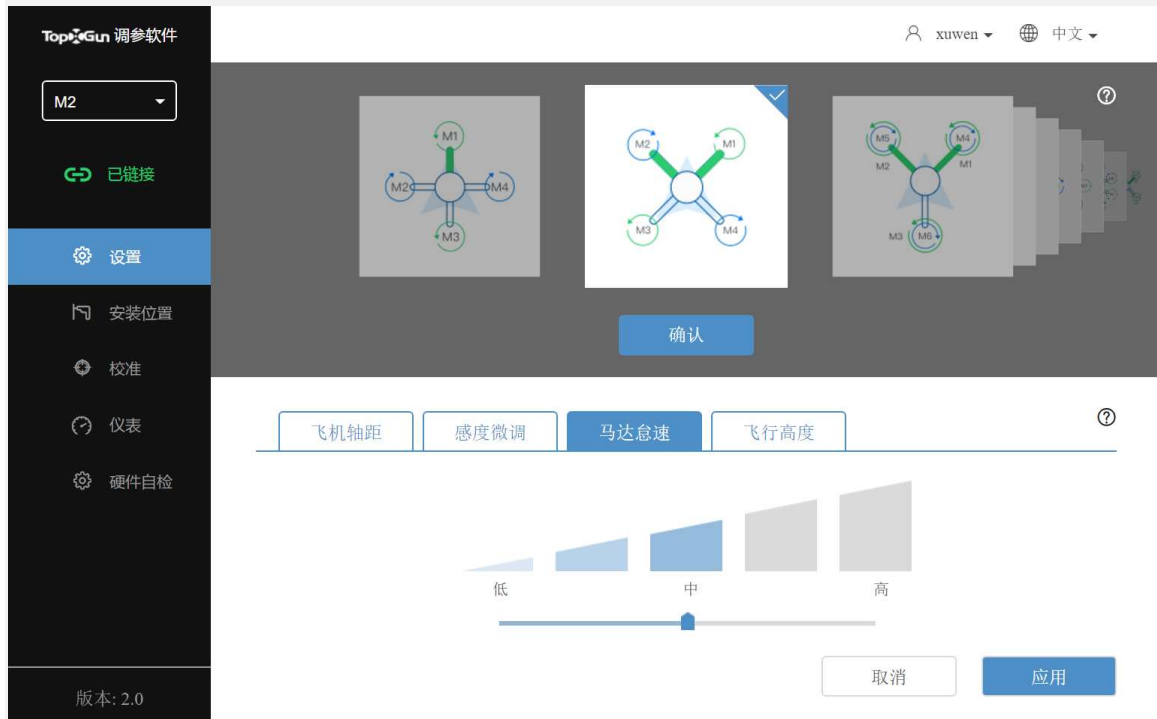

Fig.2-9 Motor related setting
Step 7. Set up the motor, as shown in the fig.2-9